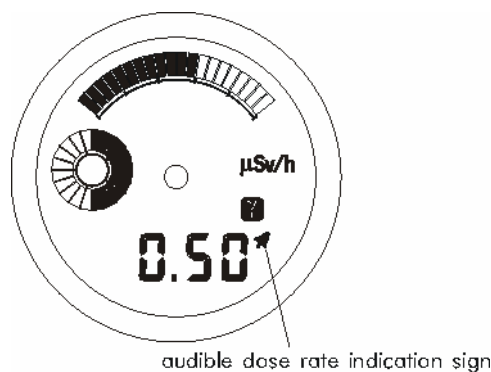

Fig.3.2
- long pressing of button 1 (MODE) in any of the above mentioned modes changes the indication of values according to the rotation described in clause 3.2.2, the corresponding sign  will be displayed that shows that *the mode of DER audible indication* is ON (Fig. 3.2).